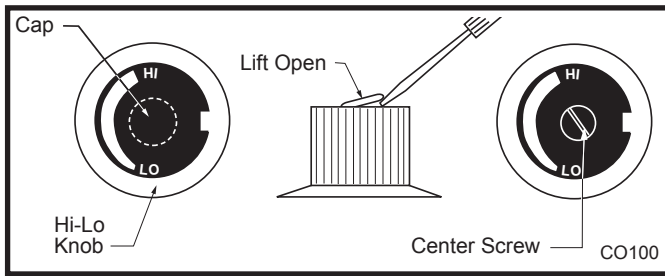

Fig. 55 Remove center screw from Hi-Lo knob.
11. Remove cap from Hi-Lo knob. This can be accomplished by lifting the plastic cap off the screw. (Fig. 55)
12. Remove the screw from center of Hi-Lo knob with small screwdriver turning counterclockwise. (Fig. 55)